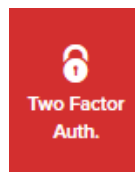

Figure 16. Partner Portal (Two Factor Auth. icon)
4. Click the **Two Factor Auth.** link on the left-hand side of the web page (Figure 16 \(page 33\)).